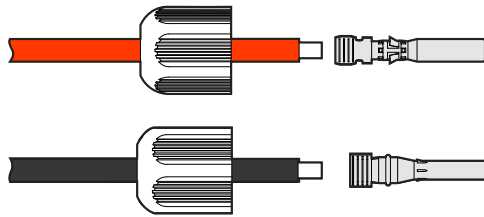

Figure3-18 Crimp the metal terminal
- Step 2 Unscrew the lock nut of positive and negative PV connector, lead the positive and negative wires go through corresponding lock nut and then insert the positive wire and negative wire into the positive metal terminal and negative metal terminal respectively. Crimp the metal terminals firmly by crimping pliers, as shown in Figure3-18.